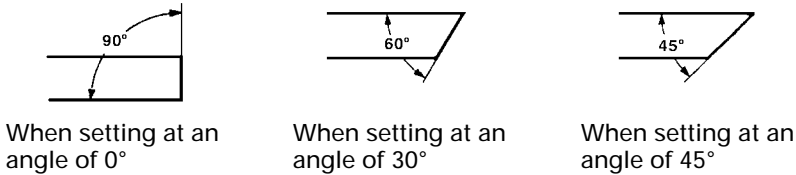
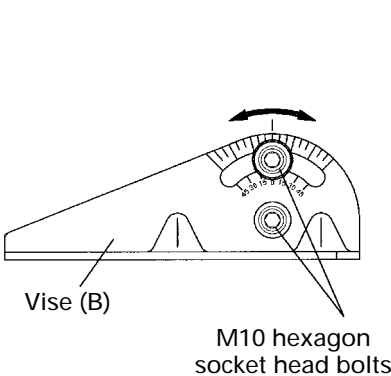

Fig. 7
Fig. 8
4. Cutting at angles (Fig. 7 and 8).
Loosen the two M10 hexagon socket head bolts on the vise (B), then set the working surface on the vise-jaw at any angles of 0°, 30° or 45° as shown in Fig. 7. Upon completion of setting, securely tighten the two M10 hexagon socket head bolts, as shown in Fig. 8.